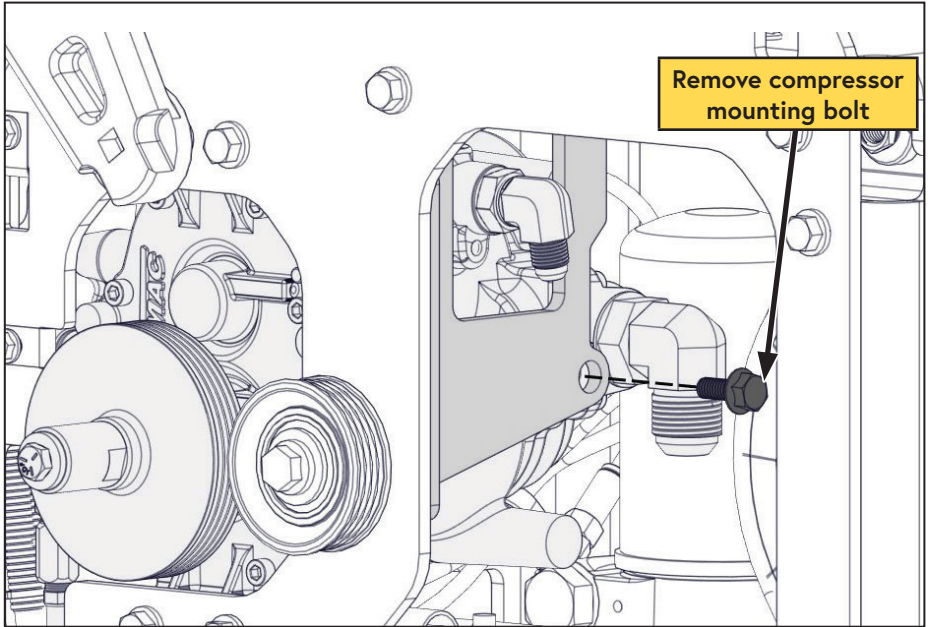

Figure 65 — Remove compressor
- Remove the bolt from the side of the compressor (Figure 65).